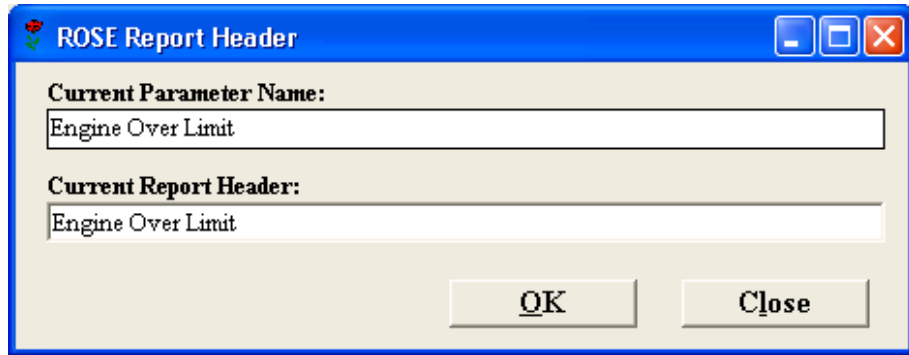

Fig. 2
3. Click “Report Header”. Overwrite item “Current Report Header” according to the Fig. 2. Click “OK” to confirm.